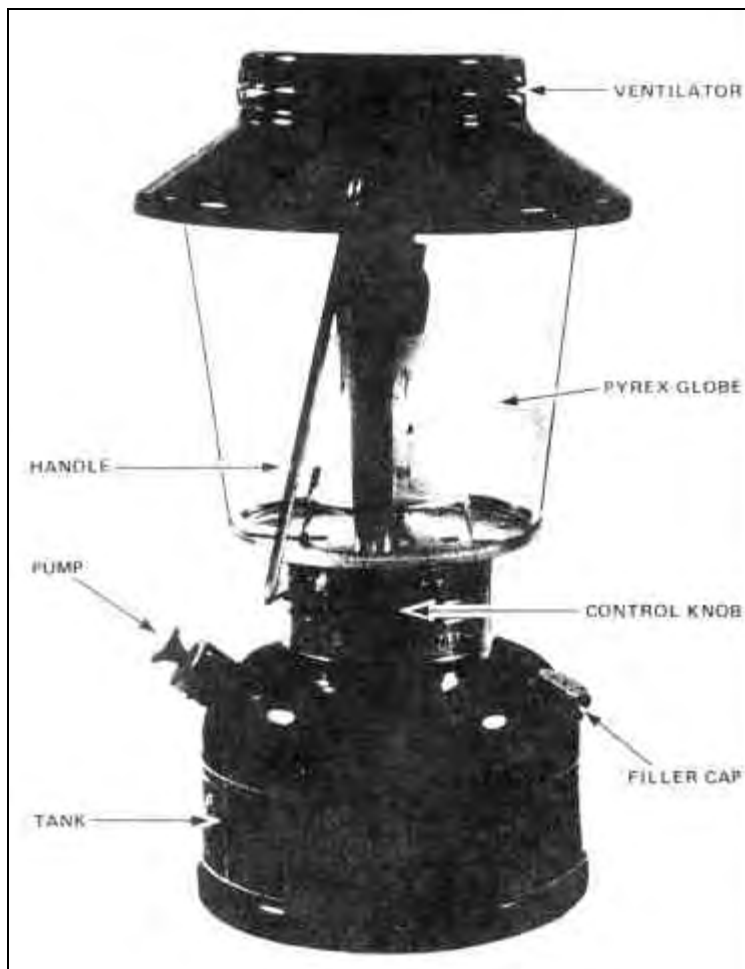

Figure 2-6 Coleman Lantern 621 B
1. The main outer parts are shown in Figure 2-6.